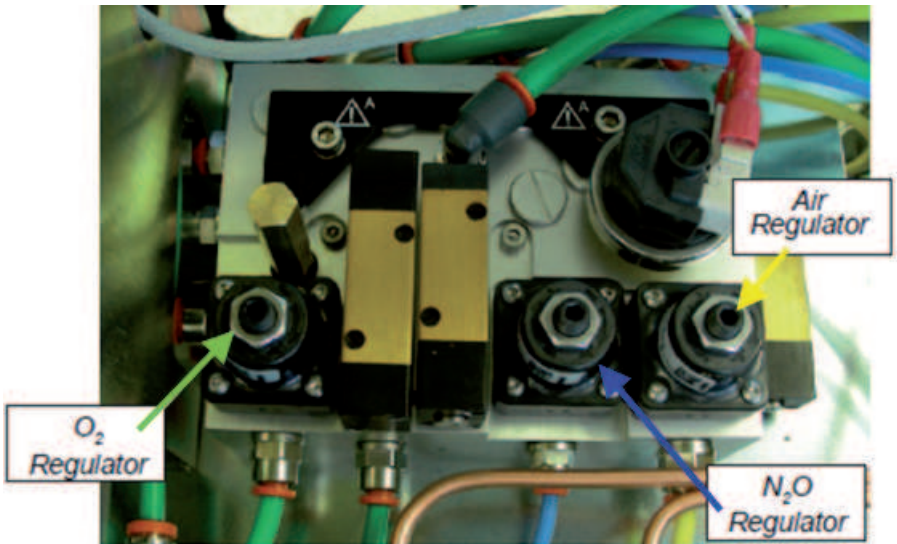

Figure 68 - Secondary Gas Regulator Locations
8. See Figure 68 to differentiate between the secondary regulator gas locations.